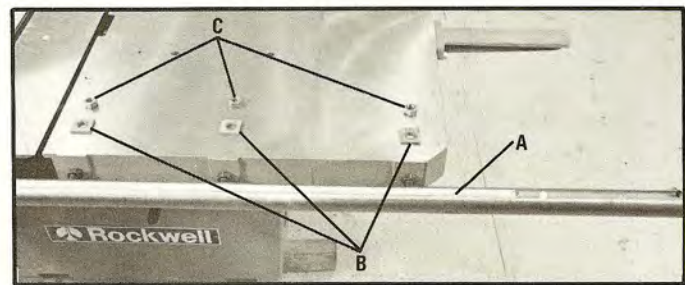
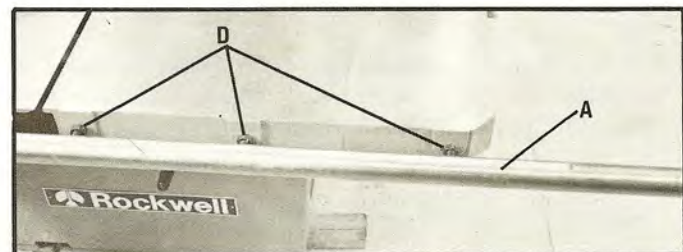

Fig. 10
Fig. 11
Assemble the guide rail (A) to the saw table and table extension as shown in Fig. 10. Assemble "square" washers (B) and M16 hex nuts (C) from the underside of the table. Fig. 11, shows the guide rail (A) assembled to the saw.
NOTE: The hex nuts (D) Fig. 11, are factory adjusted and should not be moved.